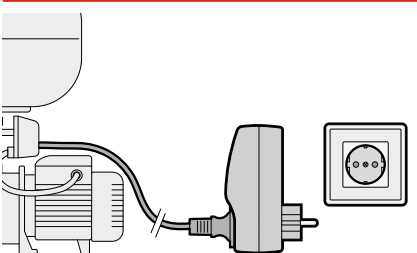

Fig. 2
- ✘ Disconnect the plug of the pump's power cable from the power socket, leaving the supply point open, and drain the system completely (**Fig. 2**).
- ✘ Insert the pump's power cable plug into the EP device (**Fig. 2**).